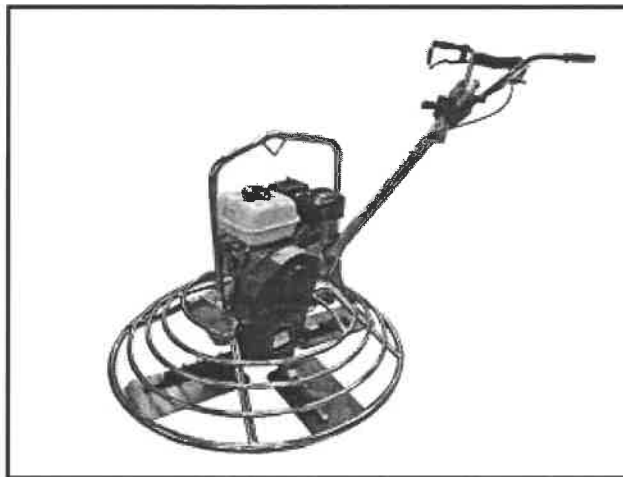

FIGURE 4.4
- 4.4 FIGURE 4.4 below shows a construction machine that is used on a building site. Study FIGURE 4.4 and answer the questions that follow.